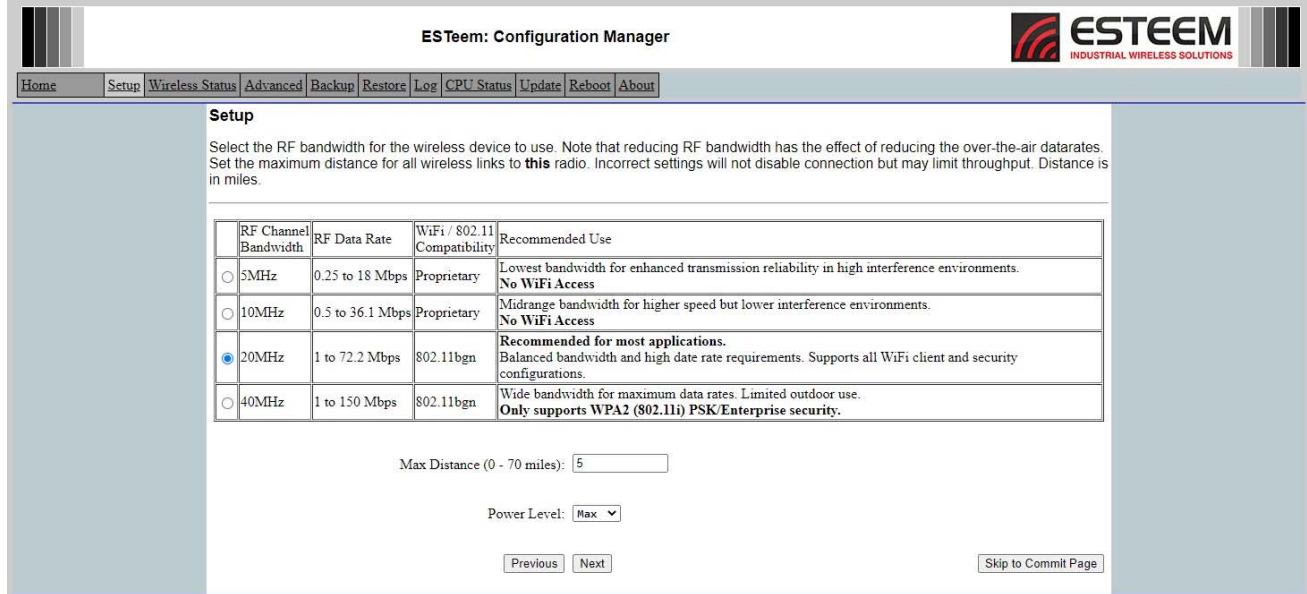

Figure 14: RF Channel Bandwidth
6. The next screen is the configuration for the RF Channel Bandwidth and setting the maximum distance (Figure 14). The RF channel bandwidth is how wide a frequency channel the Horizon radio will operate. Changes to the channel bandwidth will affect RF data rates and compatibility with WiFi or older radio series. All radios in the same network must use the same bandwidth. Set the maximum (max) distance setting to the furthest wireless link with which the Horizon being programmed